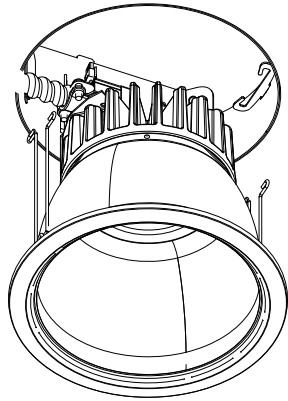

Figure 4
4. For trims with torsion springs, ensure that rubber caps are fully seated on ends of springs. Compress torsion spring and insert into receiver in plaster ring and push up to seat. See Figure 4.